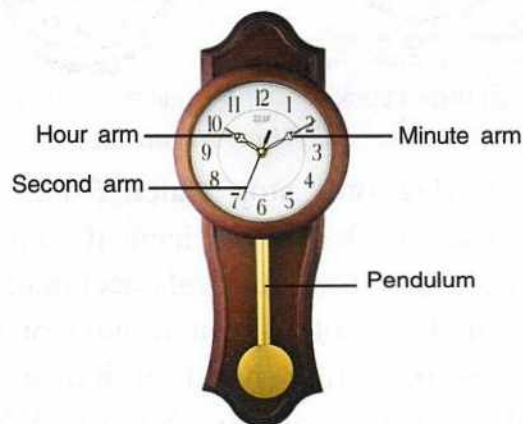

Fig. 2.12 Pendulum clock
- 1. A pendulum clock :** Fig. 2.12 shows a pendulum clock. In it, time is measured by making use of the time taken by its pendulum to complete one oscillation. The pendulum completes one to and fro oscillation in 2 s *i.e.* it moves from one extreme to the other extreme in 1 s and then returns from the other extreme to the first extreme in next 1 s. The circular dial has 12 markings divided in four quadrants. Each marking is further divided in five small divisions, so there are in all 60 small divisions. There are three needles joined to the axle of the gear wheels at the centre of the dial. These needles are named as second's arm, minute's arm and hour's arm. The second's arm moves by one small division in the time interval when the pendulum moves from one extreme to the other extreme (*i.e.* in 1 s). The minute's arm moves by a small division when the second's arm completes one round (*i.e.* in 60 s) and the hour's arm moves by 5 small divisions when the minute's arm completes one round (*i.e.*, 1 h).